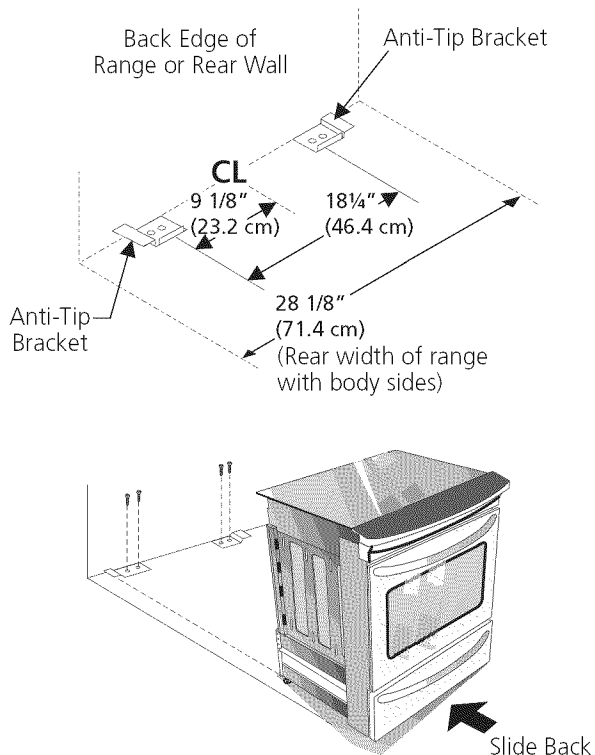

Figure 13
1. Unfold paper template and place it flat on the floor with the back and side edges positioned exactly where the back and sides of range will be located when installed. (Use the diagram below to locate brackets if template is not available. (Figure 13)).
4. Level range if necessary, by adjusting 4 leg levelers with wrench. (See Figure 13 below.) A minimum clearance of 1/8" (0.8 cm) is required between the bottom of the range and the rear leg levelers to allow room for the anti-tip brackets.